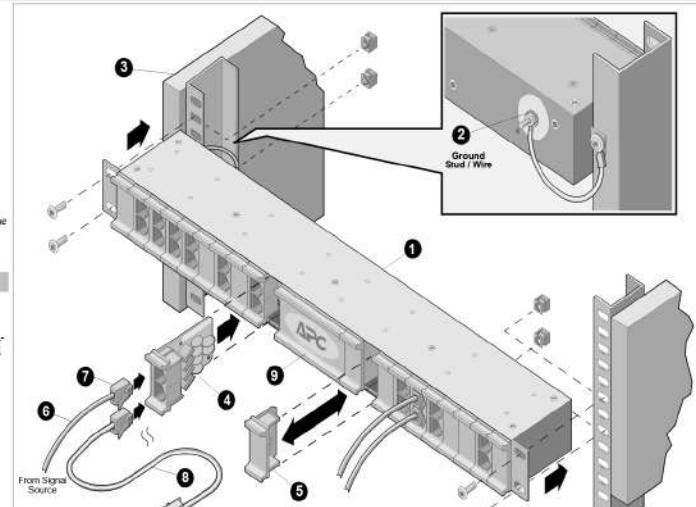

Figure 1. Typical Installation
APC recommends that the ProtectNet Data Line Surge Protection chassis (1) PRM24, be installed using the mounting hardware provided with the chassis. Additionally, the chassis must be connected to a proper protective earth ground. A ground stud (2) is provided on the back of the chassis. Ensure the mounting rack or enclosure (3) is connected to a proper ground. Install the chassis and modules (4) as shown in Figure 1.